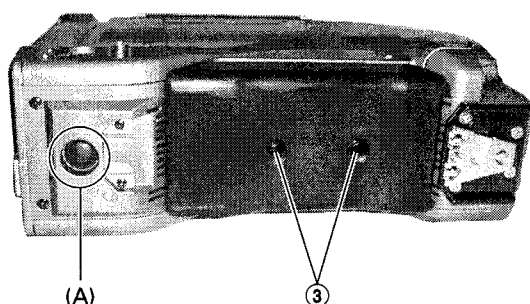

Fig. 1-1 Breaker arrangement
- (1) Remove the left side cover (see section 1.2.1).
- (2) Removing the 2 screws (3) and remove the shoulder pads (see Fig.1-1).
- (3) Remove the 4 screws (4) and remove the bottom cover.